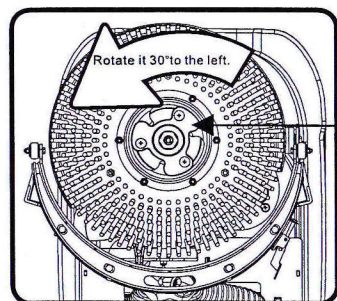

fig.3
1. Make the operation handle vertical and put the machine downward on the floor. Then, align the brush with the three-blade plate and rotate the brush 30° to the left. After that, the brush assembling will be finished and place the machine well.(fig.3)